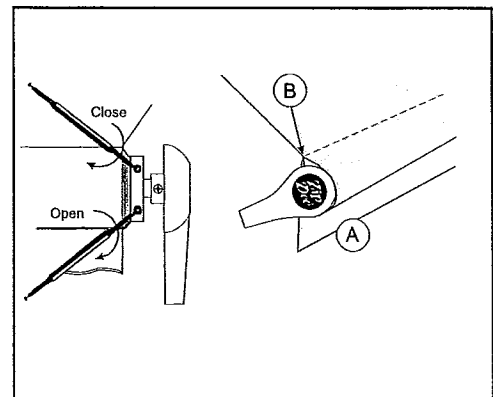

Fig. A2
Adjustments are made using the two small sockets in the exposed section of the motor at the right end of the roller tube. (Fig. A2) Use the **Motor Limit Adjusting Key** provided or a 5/32" hex wrench in the appropriate socket.
Turn the *lower* socket clockwise. One revolution will cause the awning to open about 1-1/4". Use the manual motor buttons, as described above, to operate the motor--*first* in the *opposite* direction you want to move the roller, then back again, holding the motor button until the limit switch is reached and the motor turns off. Continue adjusting the switch and "jogging" the awning back and forth until the awning is fully unrolled. At the "Fully Unrolled" position, the valance (A) will be fully extended and hang straight down from the seam of the pocket and an open "V" will be seen behind the roller tube (B). (Fig. A2)